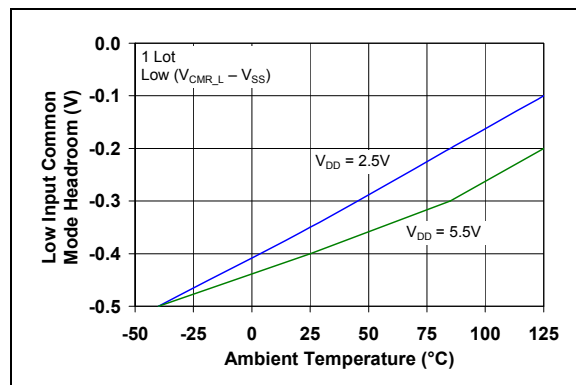

FIGURE 2-6: Low-Input Common Mode Voltage Headroom vs. Ambient Temperature.
- 2: See Figure 2-6 and Figure 2-7 for temperature effects.